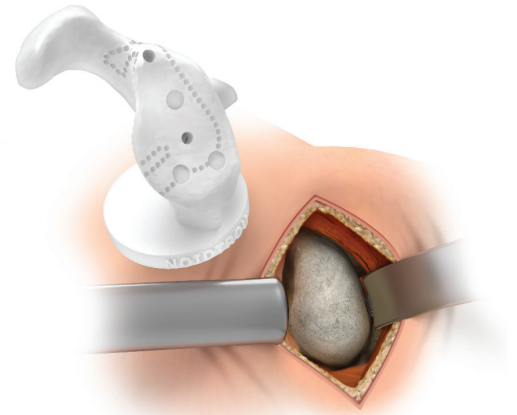

Figure 4
- ⓘ **Note:** The Signature™ ONE Pin Guide was designed to reference the glenoid fossa, the anterior glenoid rim, and the glenoid-coracoid junction. It is important to compare the native glenoid bone with the provided patient-specific bone model to ensure that all of the soft tissue has been removed from the area where the guide registers (Figure 4). This may be done with direct finger palpation along the entire glenoid surface and coracoid base. This area must be free of interfering soft tissue to allow seating of the pin guide.